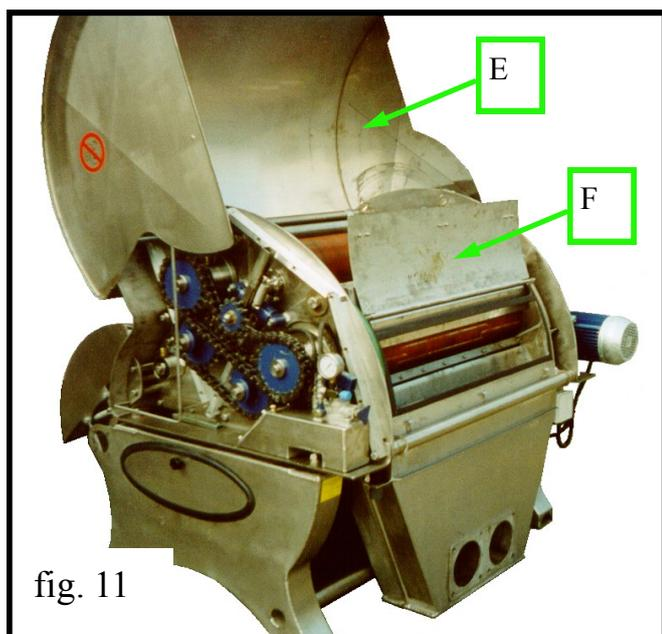
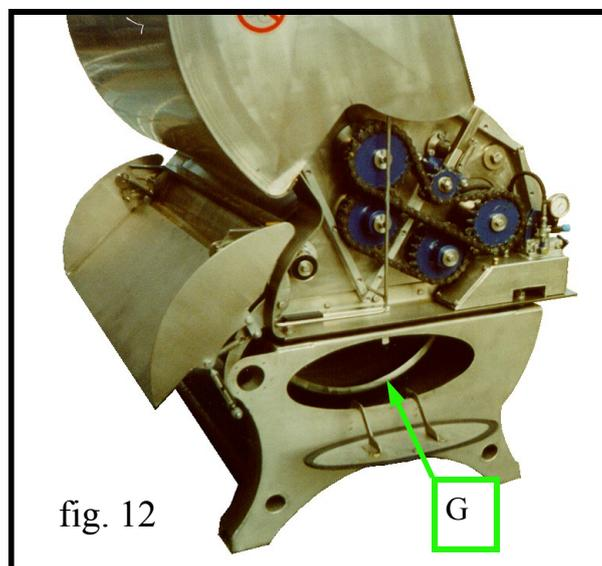

fig. 11
fig. 12
The **WASHING** device comes into operation at functioning end. The valve controls water flow inside the separator. If the water pressure is low, open the covers **E - F** **fig. 11** to have a better cleaning and to wash it manually. The screen can be inspected also through doors **G** **fig. 12**. A manually washing inside the machine can be carried out also through these openings.
- open fig. 12 door and check that the steel wires are worn out (only the central roll must be left).